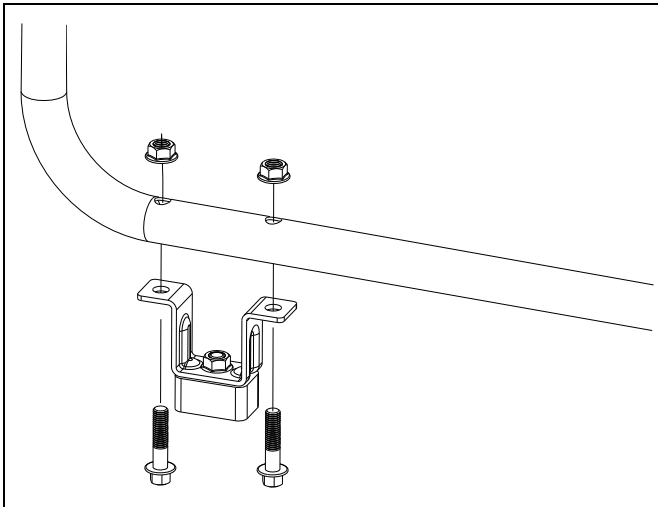

Figure 4-1. Vibration Mounts
1. Attach Vibration Mounts (feet) (Figure 4-1).